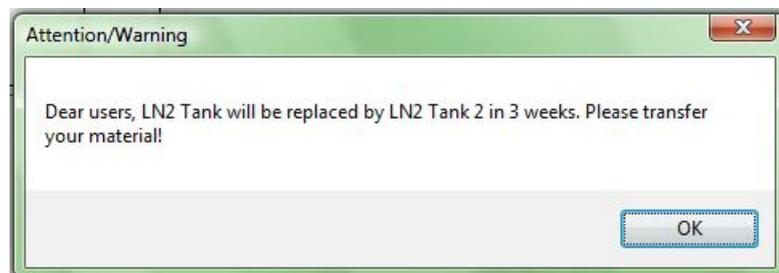

Fig.7. Message box displaying the global message
- In the **Settings** dialog box you can activate and define a message that will be displayed after the application launch. To do so check the box **ON** next to the **Global message** setting. This will activate the text field below. Use this field to enter the message important for all users of the database. For example, if you enter «**Dear users, LN2 Tank will be replaced by LN2 Tank 2 in 3 weeks. Please transfer your material!**», every user will get this message (Fig. 7) after launching the application.